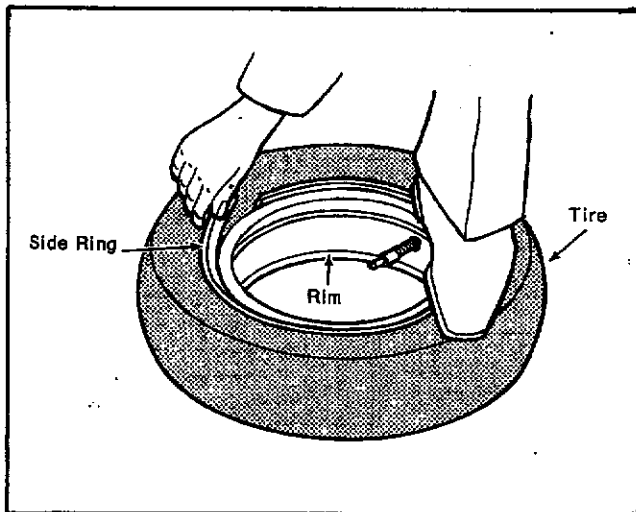

Figure 13
2. To start side ring into position place side ring on rim base as shown in Figure 13.